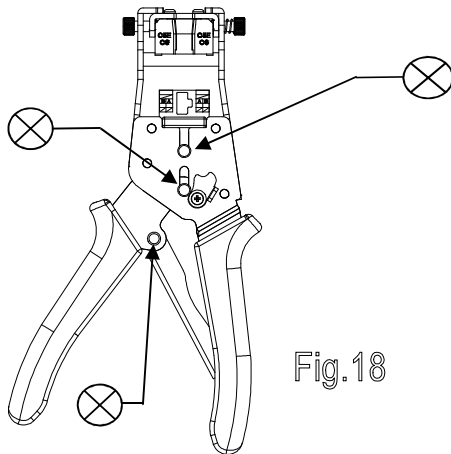

Fig.18
4. Use light oil (30 weight automotive oil), at all the oil points, every 5,000 terminations or every 3months. This will significantly enhance the tool life. (Fig. 18)